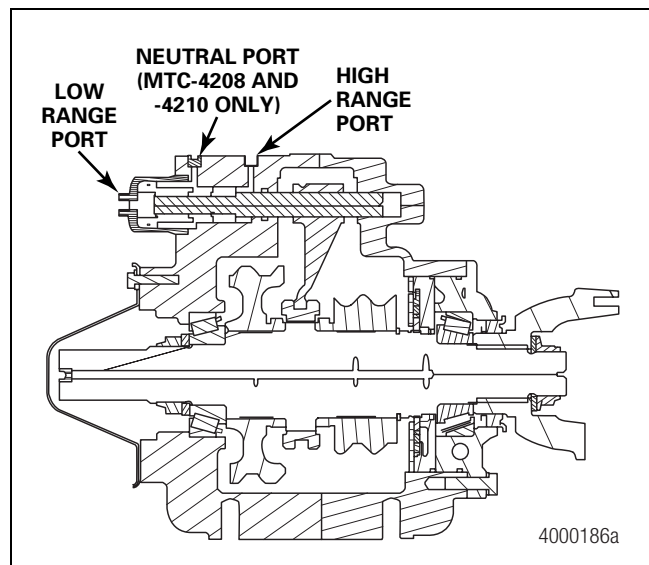

Figure 2.2
These transfer cases provide for two-speed output (high range and low range) and a neutral position that is used for PTO-equipped transfer cases only. Non-PTO cases have this neutral position plugged. Figure 2.2.
3. Shift the transfer case into high range using compressed air at the high-range port of the shift cylinder. Figure 4.2 and Figure 2.2.